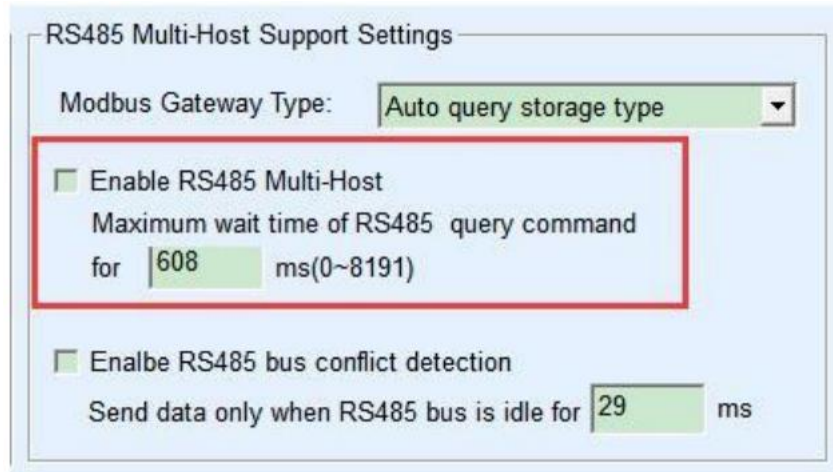
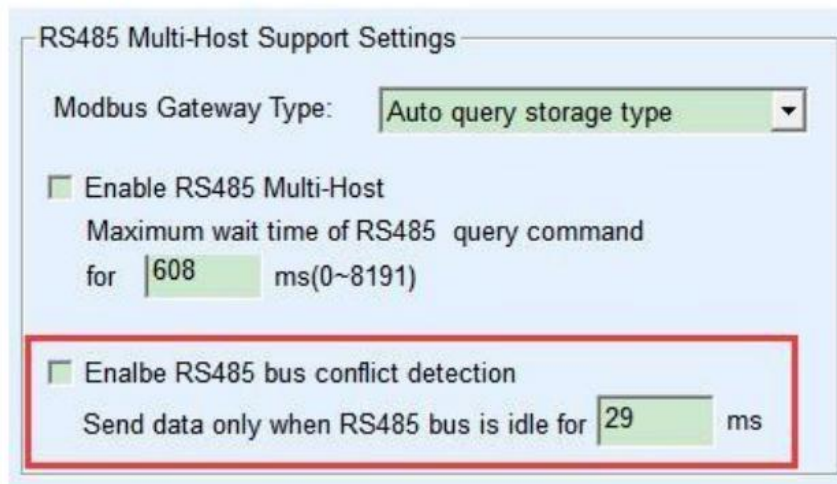

Figure 42 RS485 multi-host support
Figure 43 RS485 anti-collision idle time
1. Figure 43 shows the "RS485 bus anti-collision time". Generally, it can be set to twice the "Packet Interval" in the lower right corner of the parameter configuration interface, but the minimum should not be less than 20.
2. Figure 42 shows the "RS485 command response timeout", which is generally determined according to the length of the back and forth response command. If the sending command is N bytes and the response is M bytes, the recommended value is: "Packet interval" $\times(N+M+5)+100$.
At this time, it should be noted that it is necessary to remove the two check marks shown in Figure 43 as "RS485 bus anti-collision time" and Figure 42 as "RS485 command response timeout time". Otherwise, the above forwarding function cannot be realized. Another application method is: Although the serial server is connected to multiple network port devices as a Client, the RTU device is not the master station, and the network port device still sends it first, and the RTU device responds (as a slave station). At this time, the "RS485 bus anti-collision time" and "RS485 command response timeout time" still need to be checked, so that multiple hosts can access one RTU device at the same time.
As shown in Figure 42, the sending time of the heartbeat packet is set by the "Keep Alive Time".